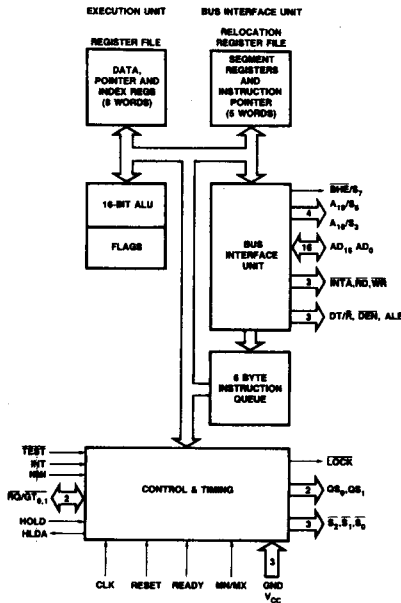

Figure 1. 80C86A CPU Block Diagram
The internal functions of the 80C86A processor are partitioned logically into two processing units. The first is the Bus Interface Unit (BIU) and the second is the Execution Unit (EU) as shown in the block diagram of Figure 1.